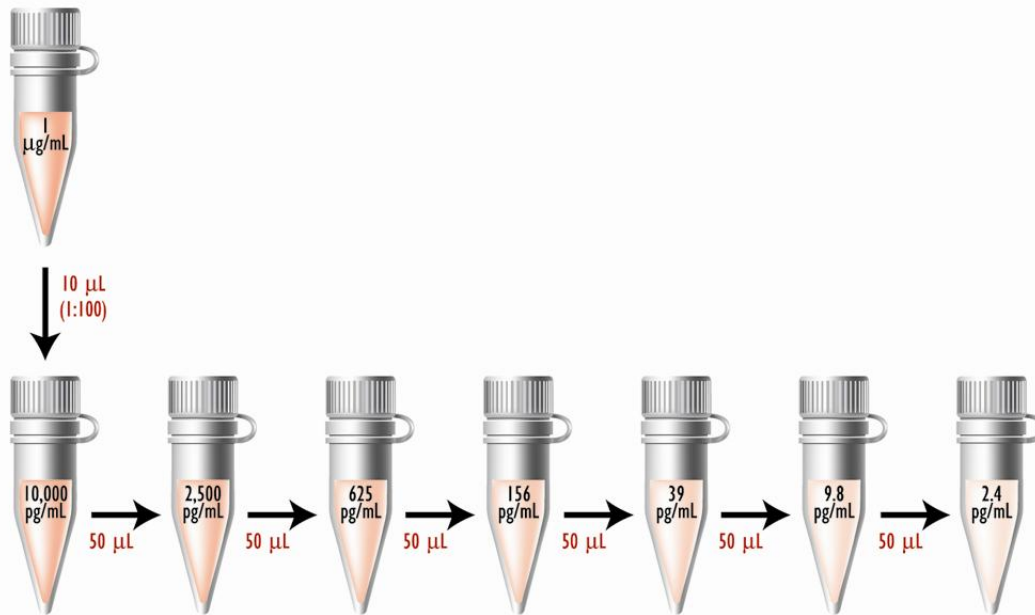

Figure 3. Calibration curve preparation from stock solution (1 $\mu\text{g}/\text{mL}$).
- 1. Addition of Sample or Calibrator:** Dispense 25 μ L of each Calibrator or Sample Solution into a separate well of the MSD plate. Figure 3 illustrates one plate arrangement of calibrator solutions that can be used to evaluate the performance of the assay. Seal the plate with an adhesive plate seal and incubate for 1 to 2 hours with vigorous shaking (300-1000 rpm) at room temperature. In general, shaking the plate results in better mixing and more rapid binding of the sample to the capture antibodies. If a protocol without shaking is preferred, a longer incubation time (4 hours or longer) may be required to achieve the same sensitivity.